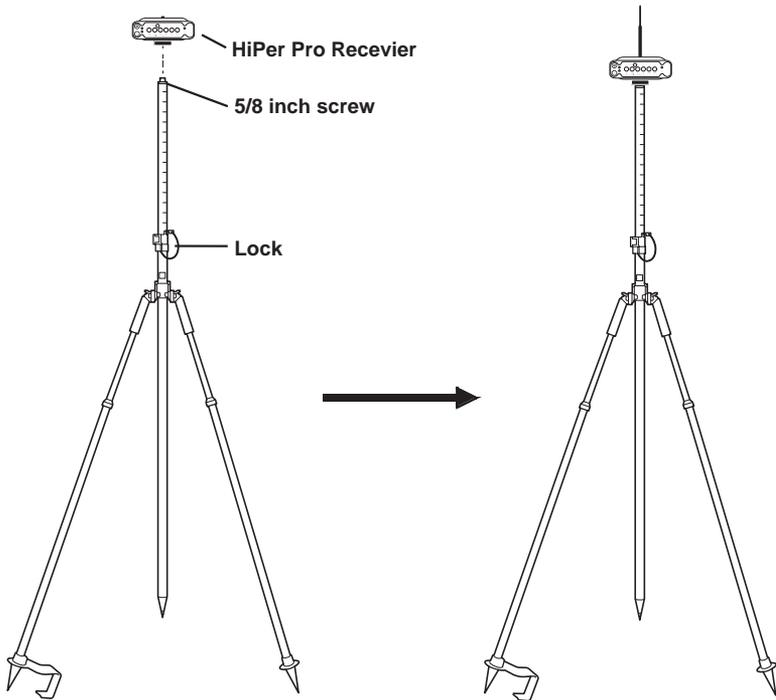

Figure 4-2. Connect HiPer Ga/Gb Receiver to Bipod
**To set up the Rover receiver (Figure 4-2):**